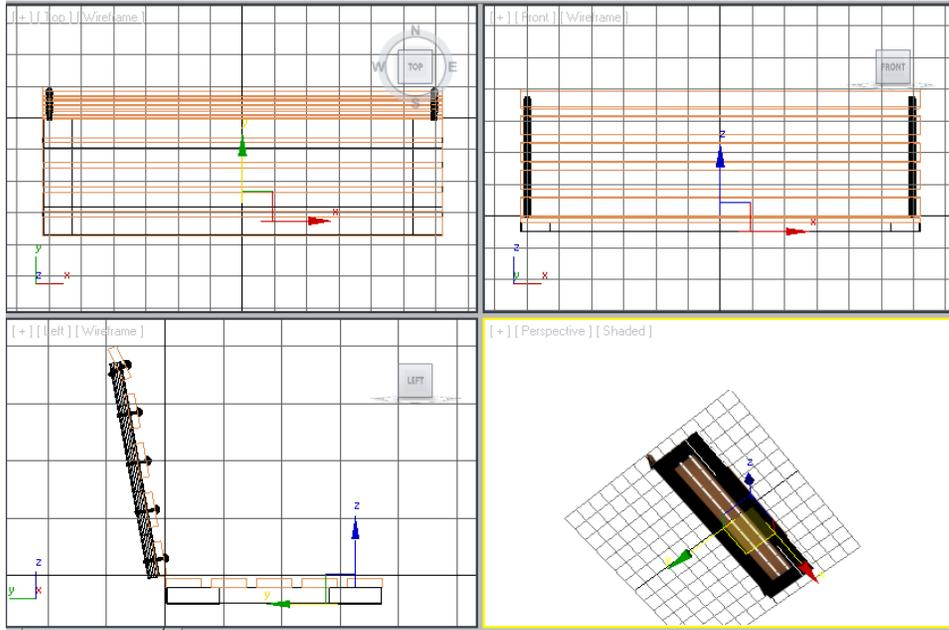

Figure 2-79 Alignment of *leg support004* in viewports
12. Choose the **Select and Move** tool and align *leg support004* with *horizontal seat support* in all viewports, refer to Figure 2-79.